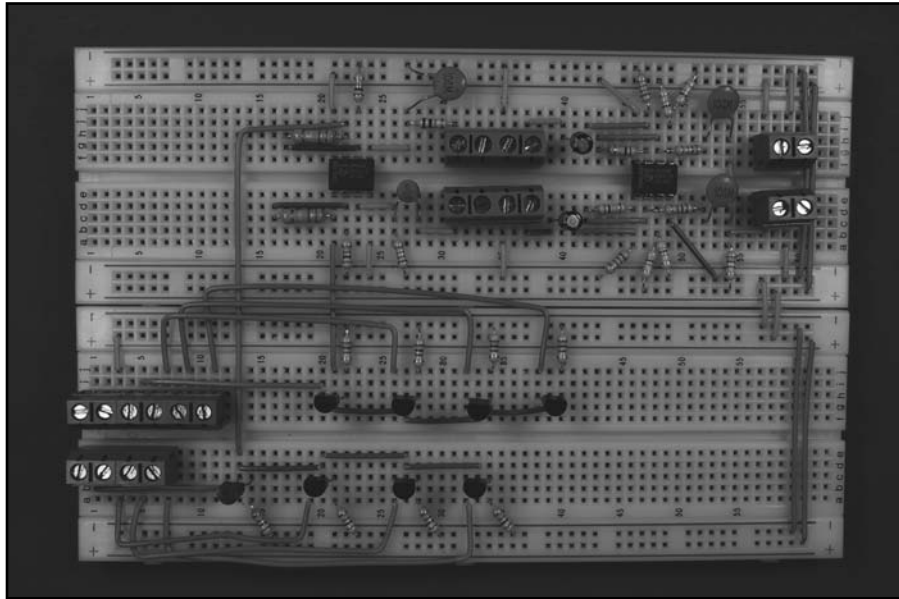

Figure 1-2:
- ✓ How to read an electronic circuit and build it on a breadboard like the one shown in Figure 1-2